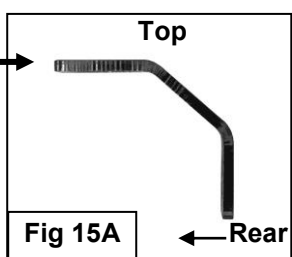

Fig 15B
11. Move along the side of the vehicle to approximately the center/back of the front door. Locate the single hole in the back of the outer frame channel, (Figure 15B). Remove rubber plug if equipped. Next locate and remove the (2) rubber plugs from the bottom of the outer frame channel. Repeat Steps 2—5 to install the (2) Bolt Plates and (1) Long Center Lock Plate to the bottom of the frame channel, (Figures 13B & 14).
12. Select (1) 10mm Bolt Plate and (1) 10mm Plastic Retainer, (Figure 13A). Partially thread the Retainer onto the Bolt Plate. Insert the Bolt Plate into the hole in the back of the frame channel, (Figure 15B).
13. Select (1) Center Support Bracket, (Figure 15A). Attach the long end of the Support Bracket to the forward Bolt Plate in the frame channel with (1) 10mm Flat Washer, (1) 10mm Lock Washer and (1) 10mm Hex Nut, (Figures 15B & 17). Select the passenger side Center Bracket, (Figure 16). Attach the Bracket to the Bolt Plate in the back of the frame channel with (1) 10mm Flat Washer, (1) 10mm Lock Washer and (1) 10mm Hex Nut. Bolt the remaining end of the Support Bracket to the front of the Center Bracket with (1) 8mm Hex Bolt, (2) 8mm Flat Washers, (1) 8mm Lock Washer and (1) 8mm Hex Nut, (Figure 17). Do not tighten hardware at this time.